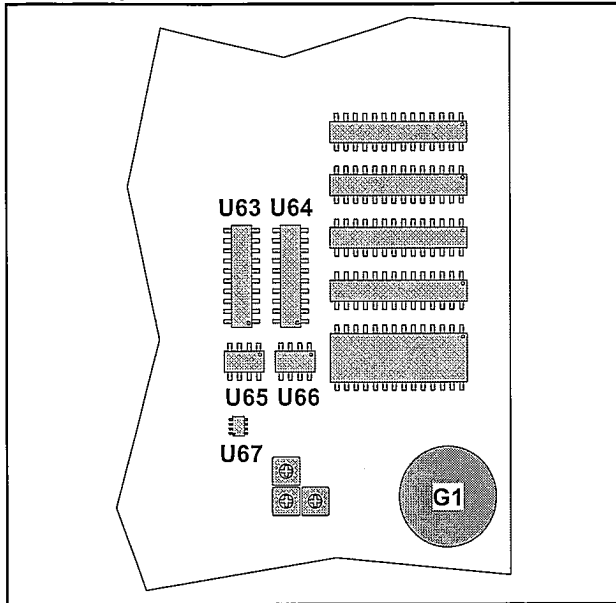
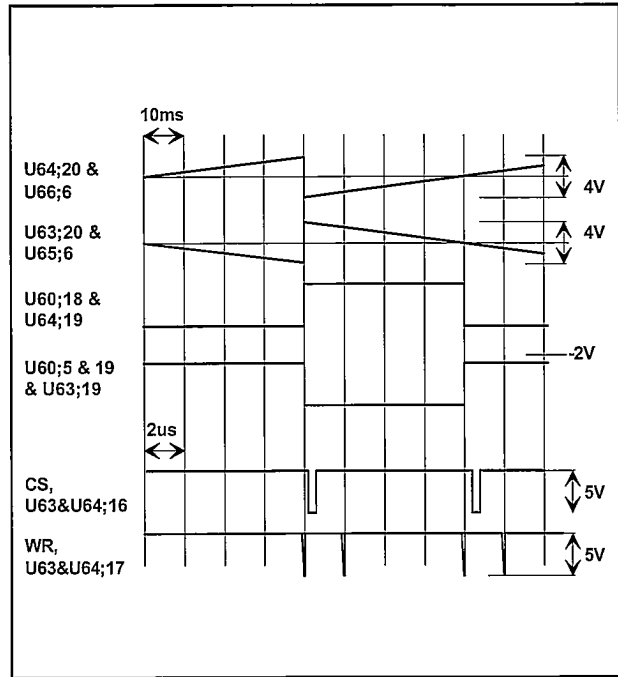

Figure 5-20 Trigger level DACs, U63 and U64.
Figure 5-21 Timing diagram for Trigger level DAC's.
*NOTE: U3, and U67 are located at the bottom side of the PCA, see Figure 5-20 and Figure 5-21.*